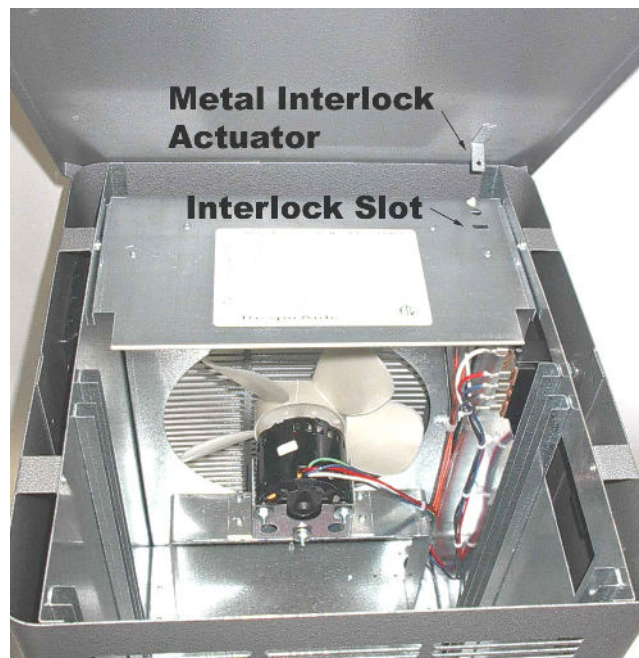

FIGURE 4 – THE COVER MUST FIT CORRECTLY FOR OPERATION.
3. Replace the cover on the unit. The cover must be installed properly for operation. See Fig. 4.
4. Replace the cover on the cabinet. The locator pin on the top of the metal guard must fit into the round hole on the bottom of the cover. See Fig. 4. If the cover is not installed properly, the unit will not operate.
- Make sure the cabinet cover is properly installed. See Fig. 4, Pg. 7.
Make sure the top access cover is properly in place in order to actuate the interlock switch. See Fig. 4, Pg. 7.